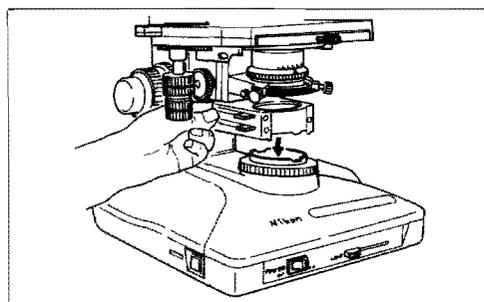

Fig. 2-19
⑫ Mounting and Dismantling the ND Filter Cassette
- Push down the ND filter cassette from the top so the two protrusions of the lower part of the ND filter cassette fit with the two mounting grooves on the rim of the field lens of the microscope base (Fig. 2-19).